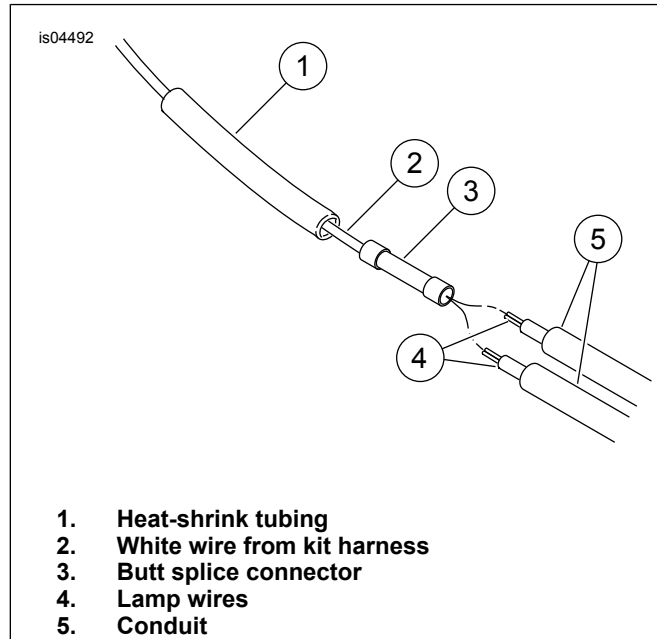

Figure 10. Connect Lamp Wires to Kit Harness
21. See Figure 10 and the SEALED BUTT SPLICE CONNECTORS section of the service manual. Slide the heat-shrink tubing (1) over the white wire (2) from the kit harness, and crimp the electrical connector (3) to the wire with the Crimp Tool.
22. Bring both lamp wires (4) to the connector. Trim the wires, allowing approximately 1 inch (25 mm) of the wire to extend past the butt splice connector. Trim the conduit (5) approximately 1-1/2 inch (38 mm) back from the end of the wire.
24. Insert the ends of both lamp wires (4) into the electrical connector (3) and crimp the wires to the connector with the Crimp Tool.